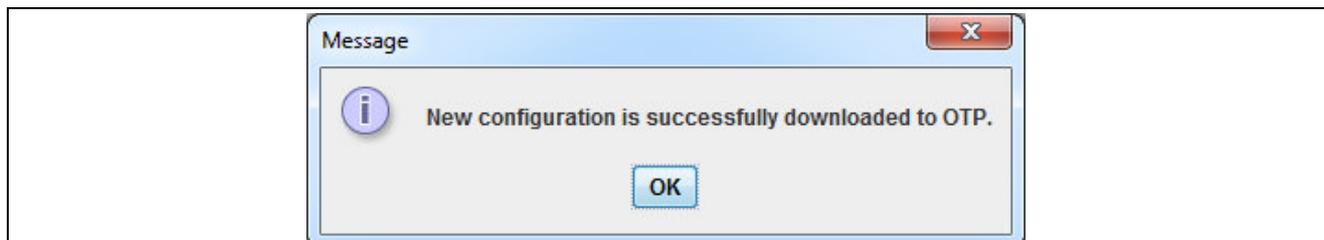

Figure 42 Burning a New Parameter Set – Message
3. Press the “Continue burning” button to burn the parameter block to OTP. After successful burning, the appropriate message will appear – see **Figure 42**.